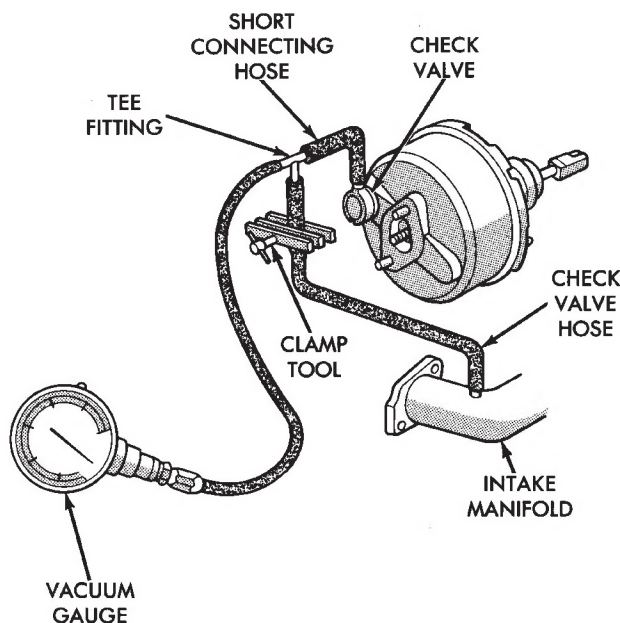

Fig. 3 Booster Vacuum Test Connections
- (1) Connect a vacuum gauge to the booster check valve with a short length of hose and tee fitting (Fig. 3).
- (2) Start and run engine at idle speed for one minute.
- (3) Pinch hose shut between vacuum source and check valve (Fig. 3).
- (4) Stop engine and observe vacuum gauge.
- (5) If vacuum drops more than one inch HG (33 millibars) within 15 seconds, booster diaphragm or check valve is faulty.